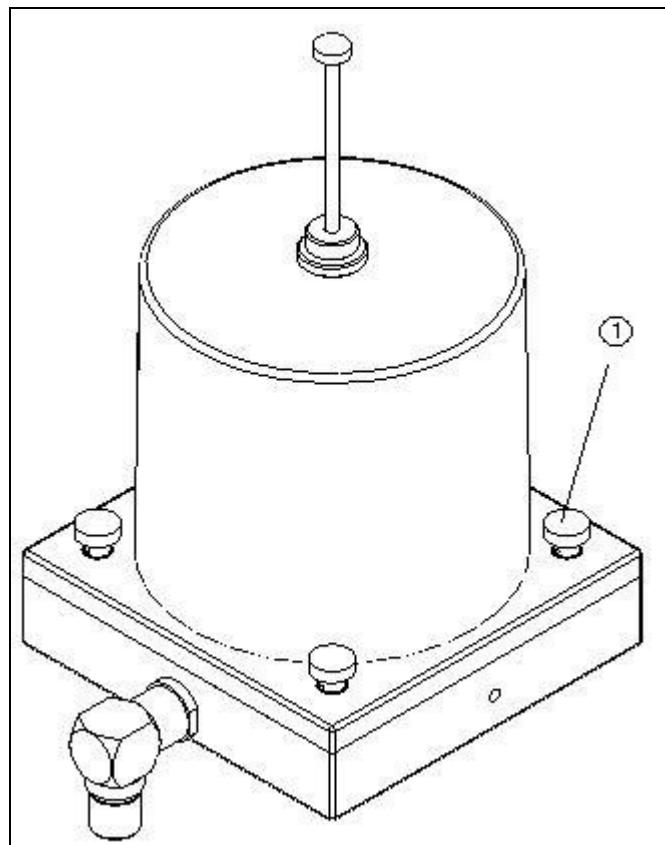

Figure 37: Location of knurled screws
1. Loosen the four knurled screws (labelled (1) in Figure 37) and remove the bellows canister